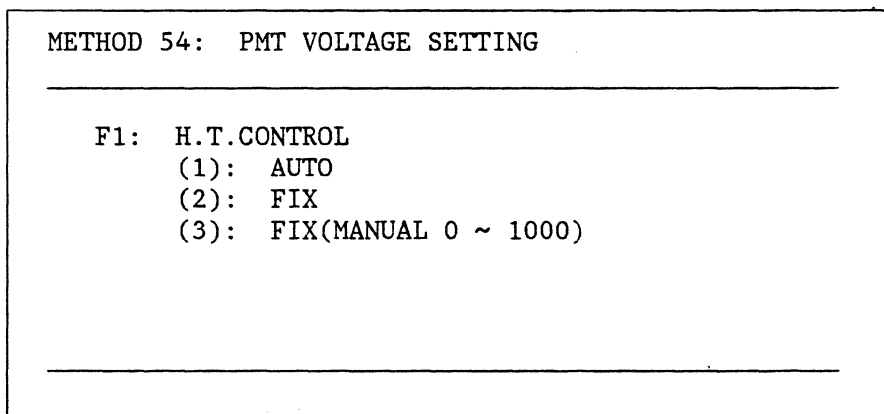

Figure 13-1. Method 54 Display
1. Press **Method** , **5** , **4** and **Enter** keys. The CRT will appear as shown in Figure 13-1.